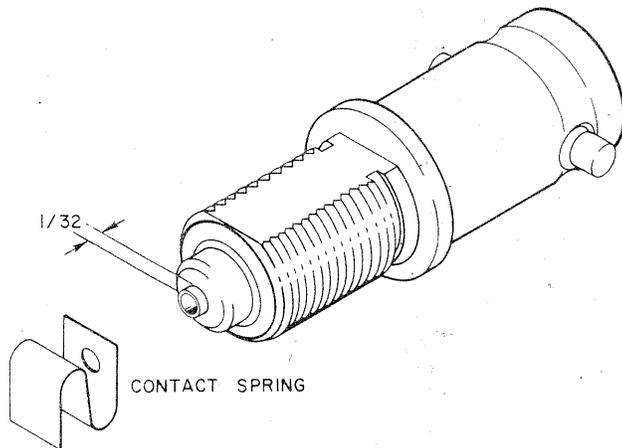

Figure 3. Cutting Center Conductor Lead to Accommodate Contact Spring
- (1) Cut center conductor lead to approximately 1/32 inch (see Figure 3).
- (2) With flat file, smooth end of lead; wipe off burr with tweezers or similar metal instrument.